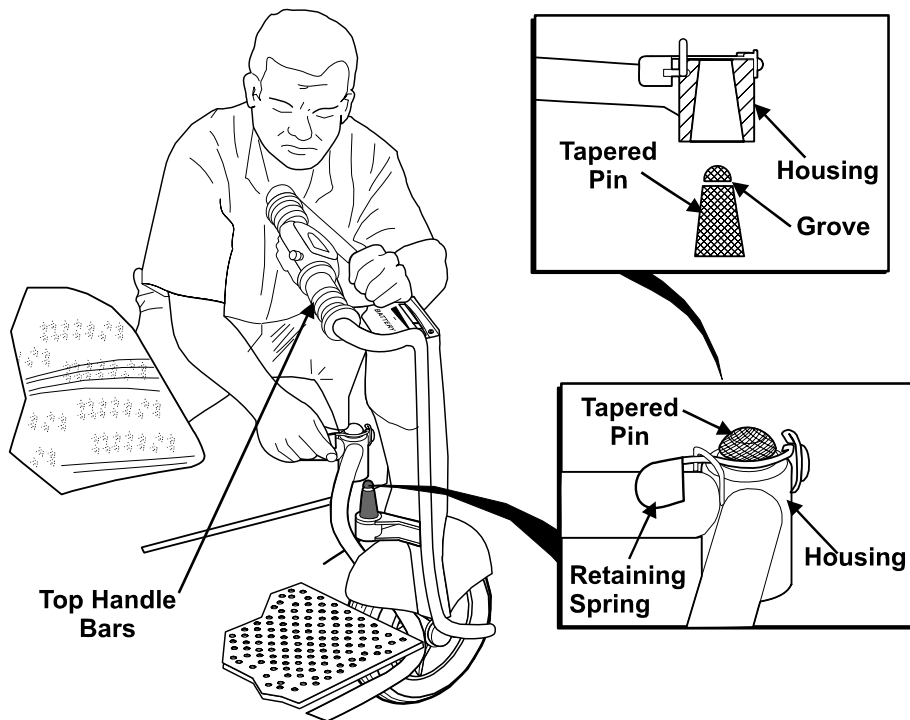

Figure 3.
- a. Place **Tiller** in front of the **Frame**. (See **Fig. 3**).
Kneel at the left side of the **SUPERLIGHT** holding the left side of the **Top Handle Bars** of the **Tiller** with your left hand. The **Tiller** should be vertical and slightly inclined backward as shown in **Fig. 3**.